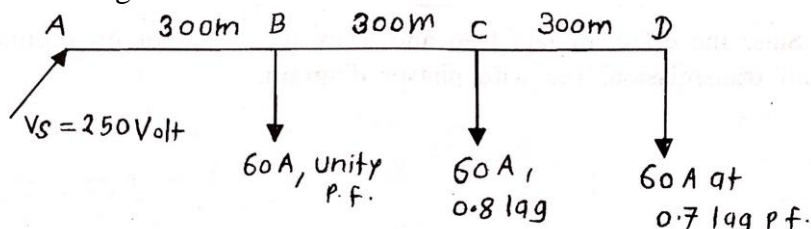

Fig. No. 2
- 5 f) A single phase AC distributor of 900 m length of total impedance of $(0.02 + j0.04)$ ohm and is feed from one end at 250 V. If it loaded as in Figure No.2. Calculate the voltage drop and voltage at far end.